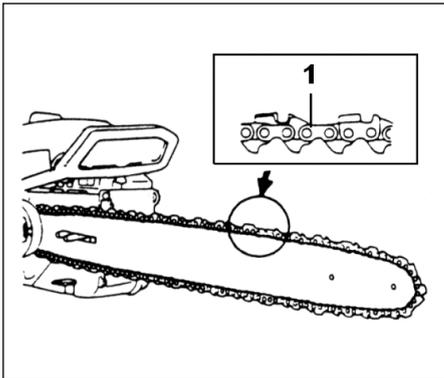

Fig.1-3
4. Confirm the direction of saw chain (1) is correct as in the figure, and align the chain on the sprocket. (Fig. 1-3)